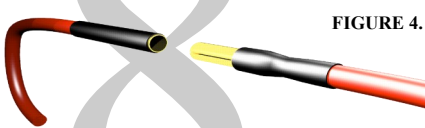

FIGURE 4.
- Choose a wiring method for the motor and battery leads. Direct wiring uses no plugs and provides the best connection between the motor and the ESC. You can use Tekin 4.0mm Hi-Power bullet connectors (TT3054, Fig 4.) for easy motor removal. Battery connector choice is up to you, use the female plug on the battery and the male on the ESC and double check the polarity.